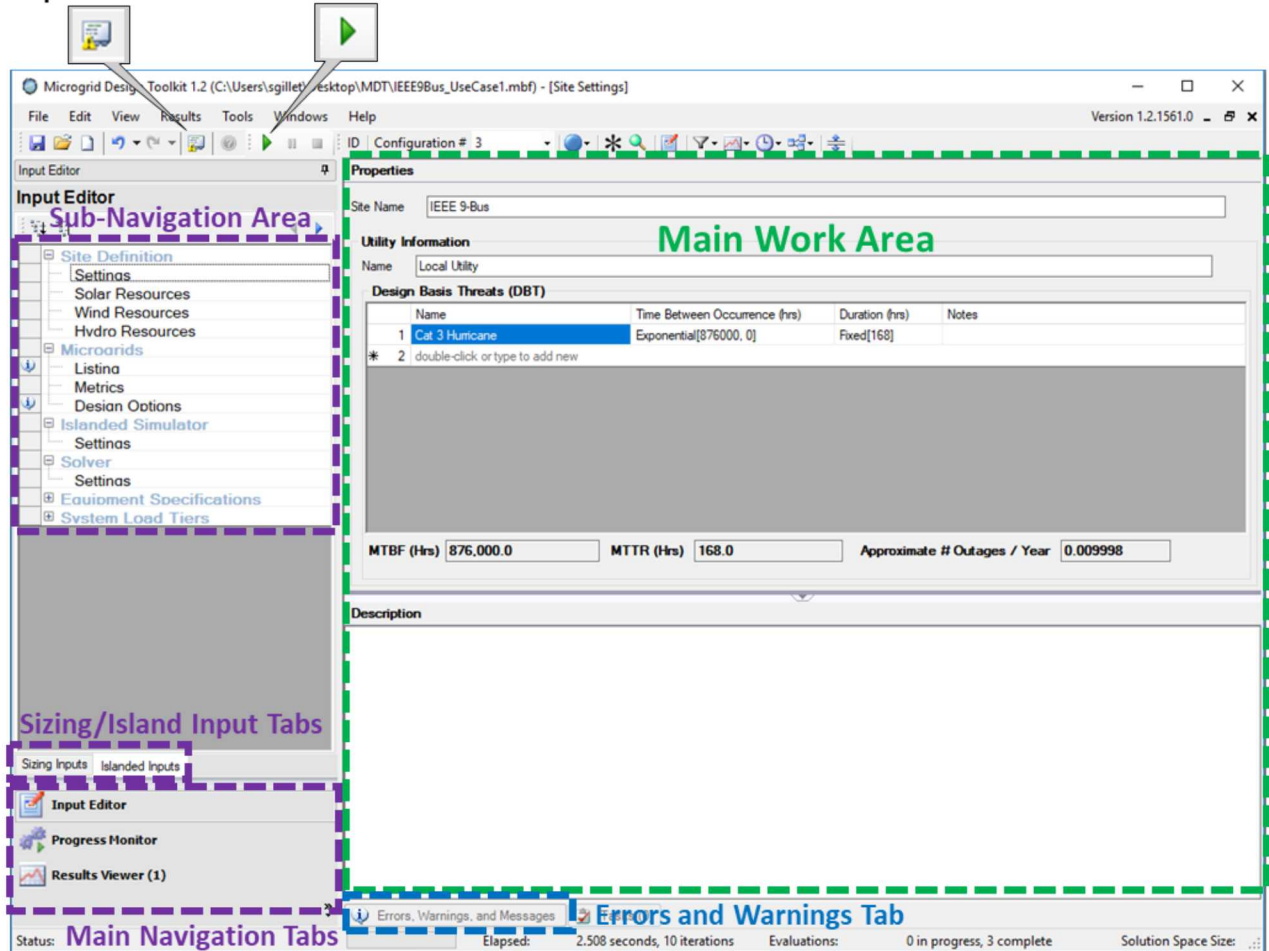

Figure 73. MDT main screen overview.
There are three main areas of MDT. They are accessed via tabs at the bottom left corner of the screen (*Main navigation tabs* in Figure 73).
Pages within each section are accessed via links in the upper left corner of the screen (*Sub-navigation area* in Figure 73). When the Input tab (under *Main navigation tabs* in Figure 73) is selected, the user can choose whether to display Sizing Inputs or Islanded Inputs (using the tabs just above the main navigation tabs) depending on the analysis being performed. Islanded Inputs is the default mode.
- The **page navigation** area is located on the left side of the page (highlighted in purple in Figure 73).
- The **main work area** (highlighted in green in Figure 73) is the largest panel on the screen. This is where elements are added and modified.
Errors  **and warnings**  for all pages are accessible through the “Errors, Warnings, and Messages” tab at the bottom of the screen (highlighted in blue in Figure 73). Errors and warnings are also displayed on the input form next to the elements with problems.